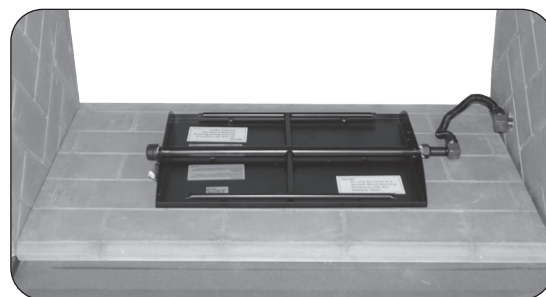

Fig. 10-2 Center burner in fireplace
4. Place the burner system in the fireplace. Center the burner from left to right in the fireplace. See Fig. 10-2.